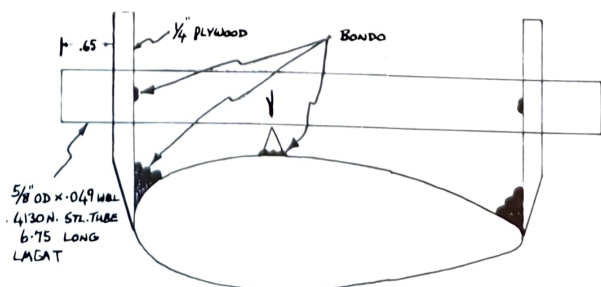

FIG. 11
- 10) Now trowel a generous blob of bondo between the plywood and the gear leg. This must be strong enough to support the plywood blocks while you layup the outer glass tabs (Fig.11). Also, bondo the steel tube to the plywood block, using only a tiny dab (Fig.11).
- 12) Now bondo a small wood reference pointer (Fig.11) to the gear leg under each steel tube. When these have cured, scribe a mark on each steel tube to coincide with the reference pointer (Fig.11). This will enable you to replace the steel tubes in exactly the same position after glassing the tabs.